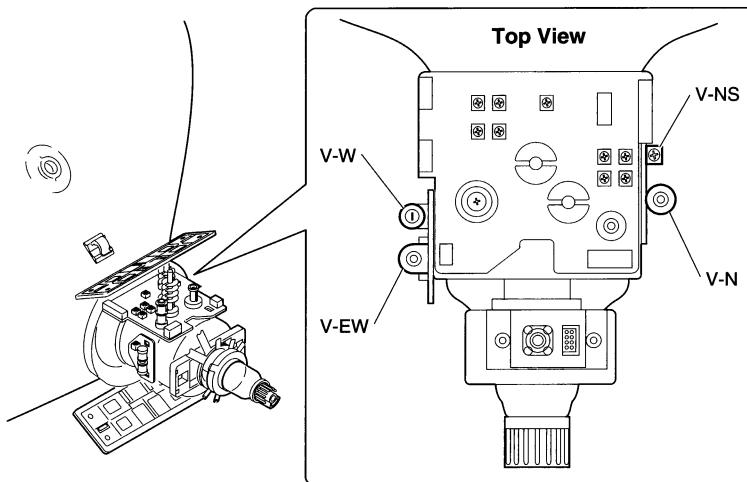

Figure 16 Convergence Adjustment Controls
2. FIGURE 16. Adjust the V-NS control until red and blue horizontal lines at the top and bottom edges are not visible. If the blue and red horizontal lines at the top or bottom of the screen remain visible, perform the V-N adjustment.
- FIGURE 16. Using the hex-head adjustment tool, adjust the V-N control until the blue horizontal lines at the top and bottom edges of the crosshatch pattern are equally distant from the green/white lines. Now repeat the V-NS adjustment.
2. FIGURE 16. Using the hex-head adjustment tool, adjust the V-EW control until the centermost red and blue horizontal lines are not visible at the left and right edges of the crosshair pattern.
2. FIGURE 16. Adjust the V-W control until the red and blue horizontal lines are not visible at the left end of the center horizontal line. This is a very fine adjustment.